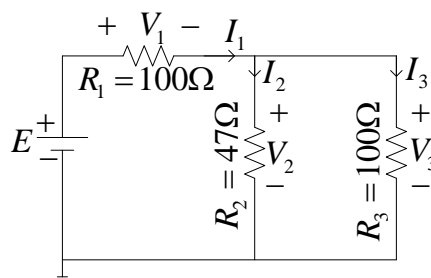

Figure 4. Circuit for experiment.
1. Theoretically calculate the values of  $V_1$ ,  $V_2$ ,  $V_3$ ,  $I_1$ ,  $I_2$ , and  $I_3$  of the circuit of Figure 4 with  $E = 3\text{V}$ .
2. Construct the circuit of Figure 4. Set the value of  $E$  at 3 V. Measure the values of  $E$ ,  $V_1$ ,  $V_2$ ,  $V_3$ ,  $I_1$ ,  $I_2$ , and  $I_3$  and record them in Table 1.
1. Calculate the values of  $V_1$ ,  $V_2$ ,  $V_3$ ,  $I_1$ ,  $I_2$ , and  $I_3$  of the circuit of Figure 4 using measured values of  $E$ ,  $R_1$ ,  $R_2$ , and  $R_3$ . Compare the calculated values with the measured values and give reason if any discrepancy is found.